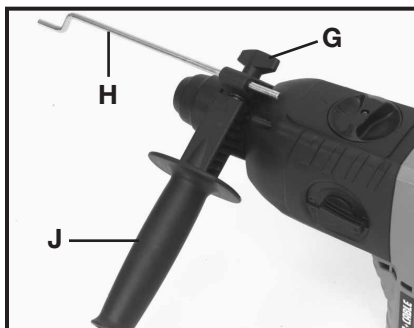

Fig. 8
The Auxiliary Handle (J) Fig. 8, is factory installed on the machine. The depth gage (H) Fig. 8, is stored in the carrying case.
2. Loosen knob (G) Fig. 8.
3. Insert depth gage (H) Fig. 8, into clamp.
7. Tighten Knob (G) Fig. 8, securely to lock auxiliary handle and depth gage in place.